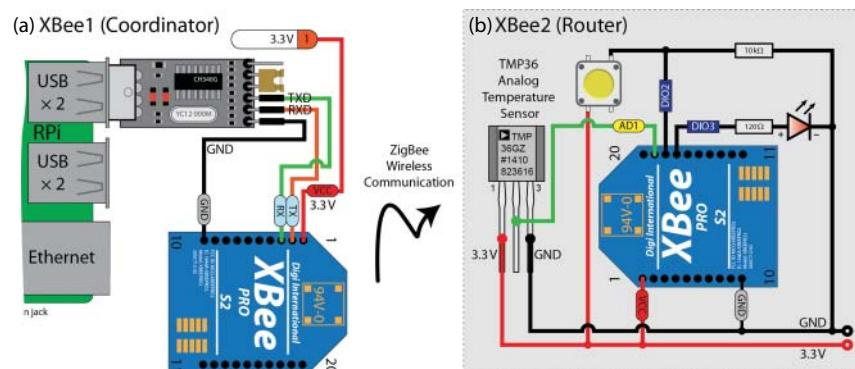

Figure 13-15: (a) The XBee1 RPi coordinator circuit, and (b) the standalone XBee2 router circuit with sample I/O connections
In this section two identical XBee S2 ZigBee devices are configured into API mode by writing new firmware to them. As illustrated in Figure 13-14, XBee1 is configured as a ZigBee Coordinator (API mode), and XBee2 is configured as a ZigBee Router (API mode). In this example, the coordinator is attached to the RPi, but the XBee router is utilized as a standalone microcontroller, as illustrated in Figure 13-15.
The PAN ID is set to 1234 for both devices. Once the PAN ID is set for XBee1, it can be disconnected from the XBee USB Explorer and attached to the RPi, as illustrated in Figure 13-15(a).
In this example, the XBee2 router device is not attached to an Arduino; rather, it is used as a standalone microcontroller, as illustrated in Figure 13-15(b). The
- `remote64` is the address of the node that transmitted the data, which corresponds to the address of the XBee2 in Figure 13-15(b).
Using the same circuit configuration as in Figure 13-15, you can execute the `simple.c` program in `/chp13/xbee/cpp/` to test the library (remember to set the XBee UART device in the `simple.c` file):